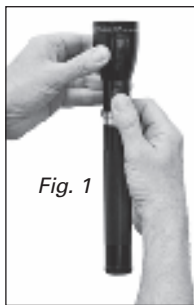

Fig. 1
2. Head - The head houses the reflector and the LED module. The flashlight's Quick-Adjustable Beam operates by rotating the head. About $\frac{1}{4}$ turn of the head causes the beam to vary between a wide floodlight setting and a narrow spotlight setting (Fig. 1). To remove the head, first remove the face cap and reflector; the head is then free to slide down the barrel. This maneuver provides access to the O-ring seal that is seated in a groove on the outside of the barrel, near the head end, and seals the head-barrel assembly against grit and moisture.